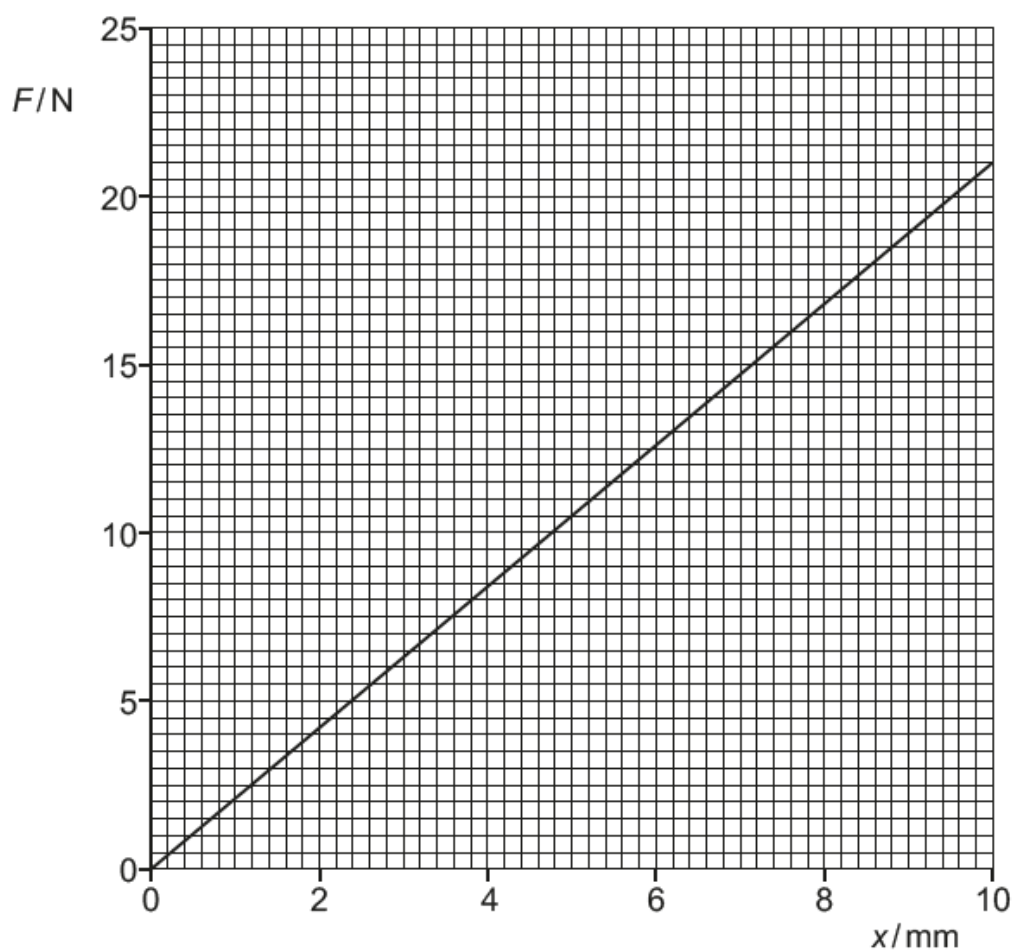

Fig. 3.3
The variation of the force F applied to the spring with compression x of the spring is shown in Fig. 3.3.
- (i) Use Fig. 3.3 to calculate the spring constant k of the spring.